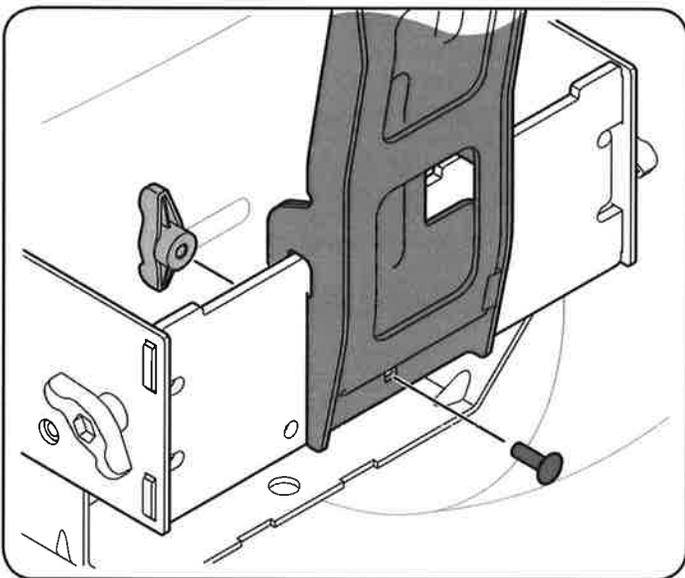

Figure 10
6. Secure the bag support assembly to the mounting assembly using a carriage bolt (710-0276) and wing knob (720-04122) from hardware pack 689-00328A. See Figure 10.